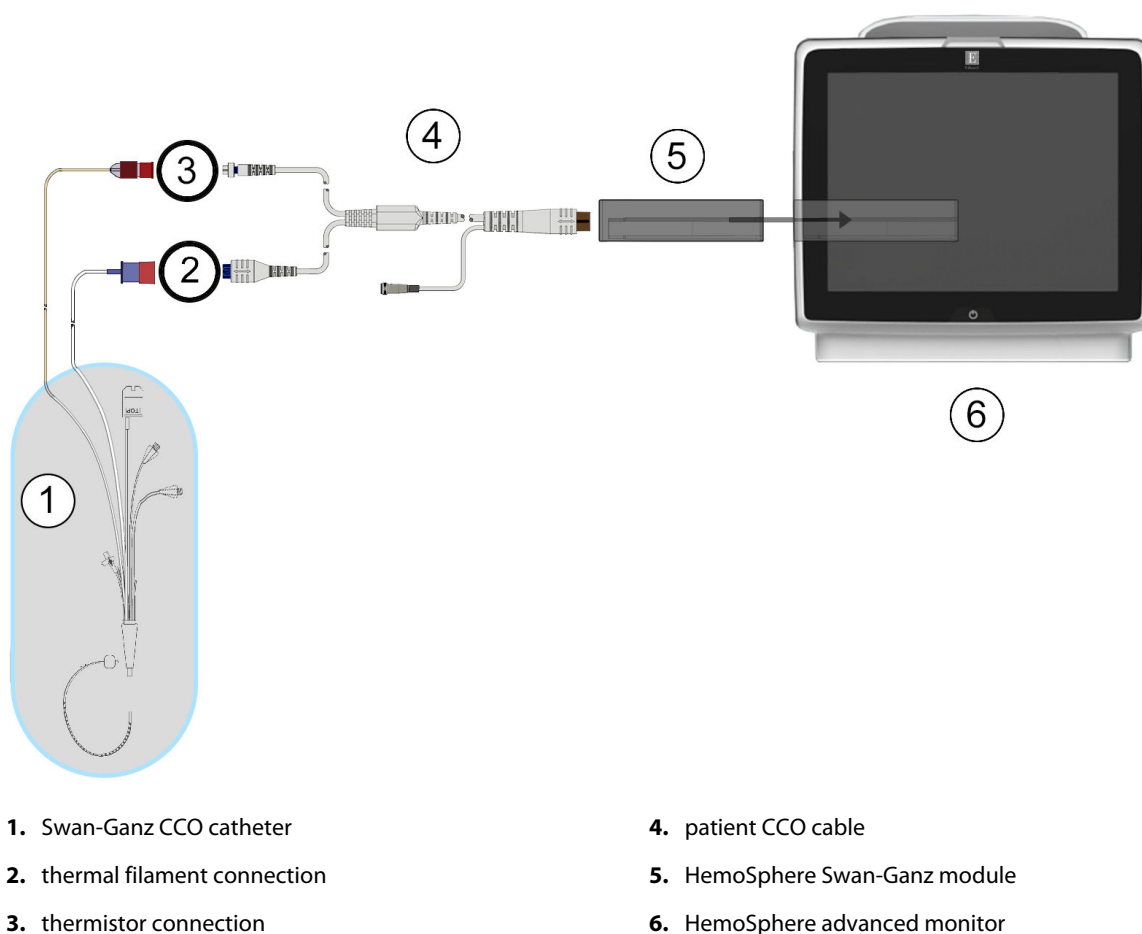

Figure 9-4: CO connection overview
2. Attach the catheter end of the patient cable to the thermistor and thermal filament connectors on the Swan-Ganz CCO catheter. These connections are emphasized as numbers (2) and (3) in Figure 9-4 on page 161.